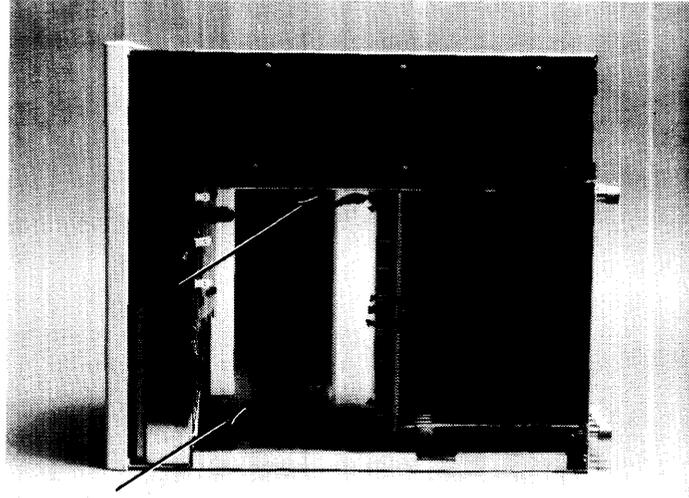

Figure 2-9. Expander to Computer Attaching Screws
- a. Remove the expander's attaching screws shown in Figure 2-9.